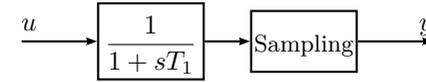

Figure 11.3a
11.3 Consider the system in Figure 11.3a, which illustrates sampling with prefiltering. Suppose we are sampling with the sampling period T and that $u = u_0 + u_1$, where u_0 is an “interesting” low frequency signal in the frequency interval $0 < \omega < \pi/T$ and that u_1 is a sinusoidal control signal